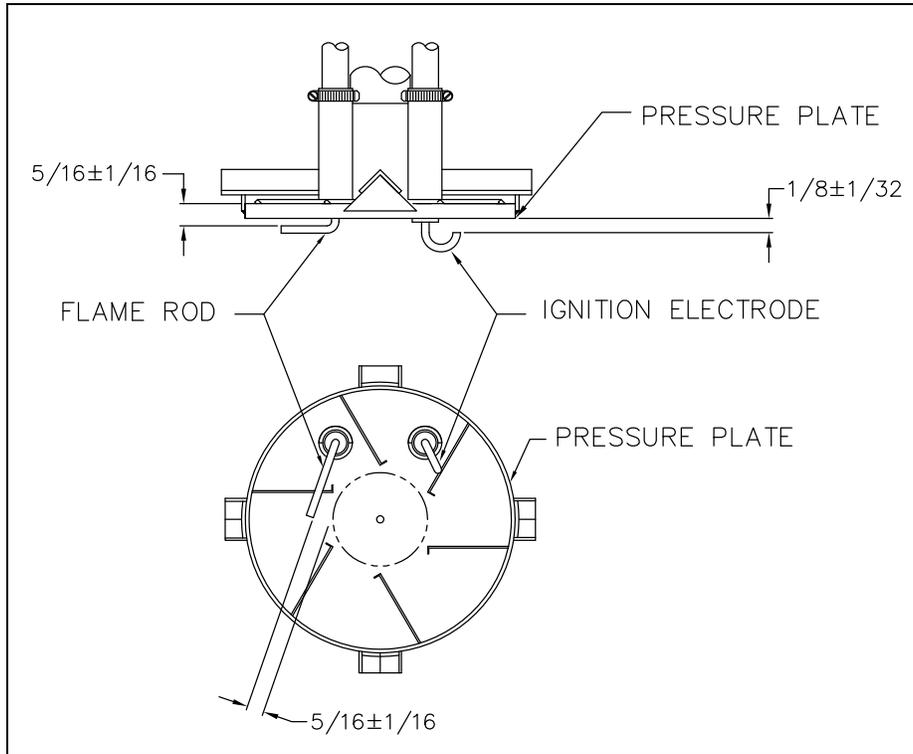

Figure 7
4. With electrodes exposed, check for the proper settings as in Figure 7 below. Check for any hairline cracks in the insulators. Should replacement of burner electrodes be required, certain procedures must be followed. In all cases, removal of electrodes is accomplished by loosening the electrode mounting clamps. Draw electrodes out of the nozzle assembly through the holes in the pressure plate.
7. Measure and set electrodes according to Figure 7. After gaps and setting are complete, fully tighten the electrode-mounting clamp. Do not over tighten or ceramic insulation may crack.